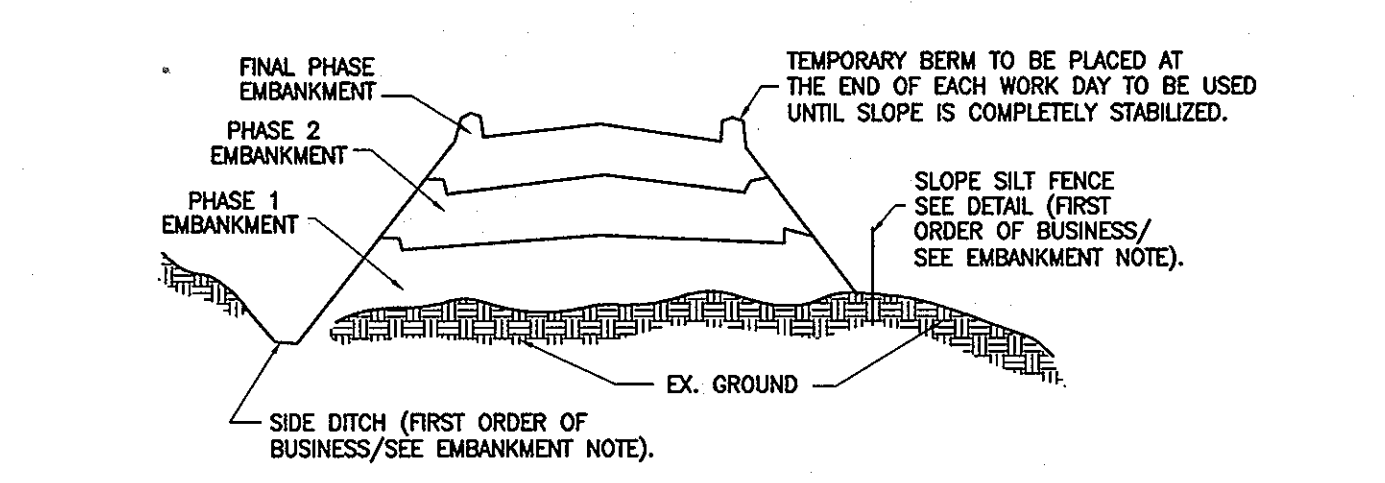

Figure 5 Incremental Stabilization - Embankment Fill Comply with MD 378 Specifications.
- Construction sequence: Refer to Figure 5 (below):
- Select one or more of the species or mixtures listed in Table 26 for the appropriate Plant Hardiness Zone (from Figure 5) and enter them in the Temporary Seeding Summary below, along with application rates, seeding dates and seeding depths. If this Summary is not put on the plans and completed, then Table 26 must be put on the plans.
- Select one or more of the species or mixtures listed in Table 25 for the appropriate Plant Hardiness Zone (from Figure 5) and enter them in the Permanent Seed Summary below, along with application rates and seeding dates. Seeding depths can be estimated using Table 26. If this Summary is not put on the construction plans and completed, then Table 25 must be put on the plans. Additional planting specifications for exceptional sites such as shorelines, streambanks, or dunes or for special purposes such as wildlife or athletic treatment may be found in USDA-SCS technical Field Office Guide, Section 342 - Critical Area Planting. For special low maintenance areas, see Section IV Sod and V Turfgrass.